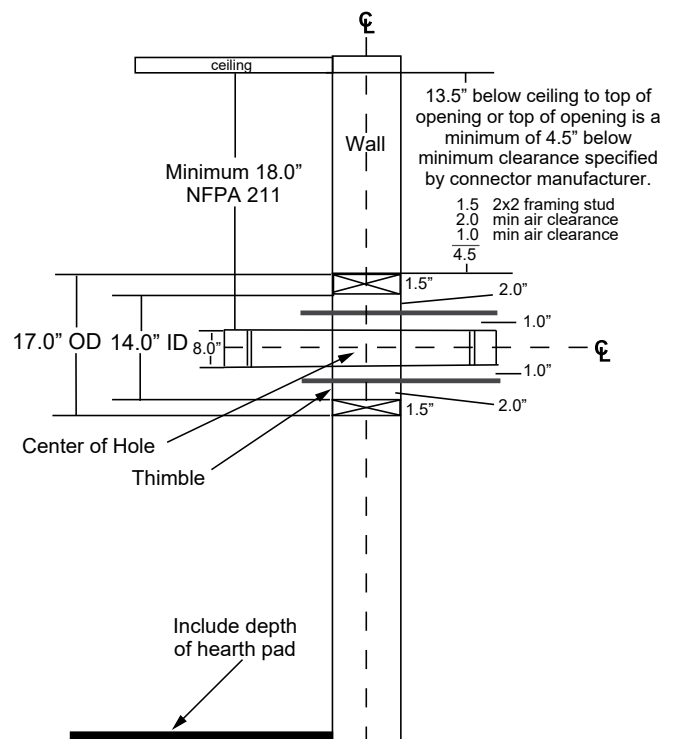

Figure 14.2
- Top of wall opening is a minimum of 13-1/2 inches (343mm) from ceiling or 4-1/2 inches (114mm) below minimum clearance specified by chimney connector manufacturer. **NFPA 211** minimum vertical clearance of 18 inches (457mm) from chimney connector and ceiling or minimum recommended by chimney connector manufacturer (**Figure 14.2**).
1. Open inside wall at proper height for the chimney connector to enter the masonry chimney (**Figure 14.2**).
3. Construct a 17 inch x 17 inch (432mm x 432mm) outside dimension frame from 2 x 2 framing lumber to fit into wall opening. Inside opening of frame should be no less than 14 inch x 14 inch (356mm x 356mm) (**Figure 14.2**).